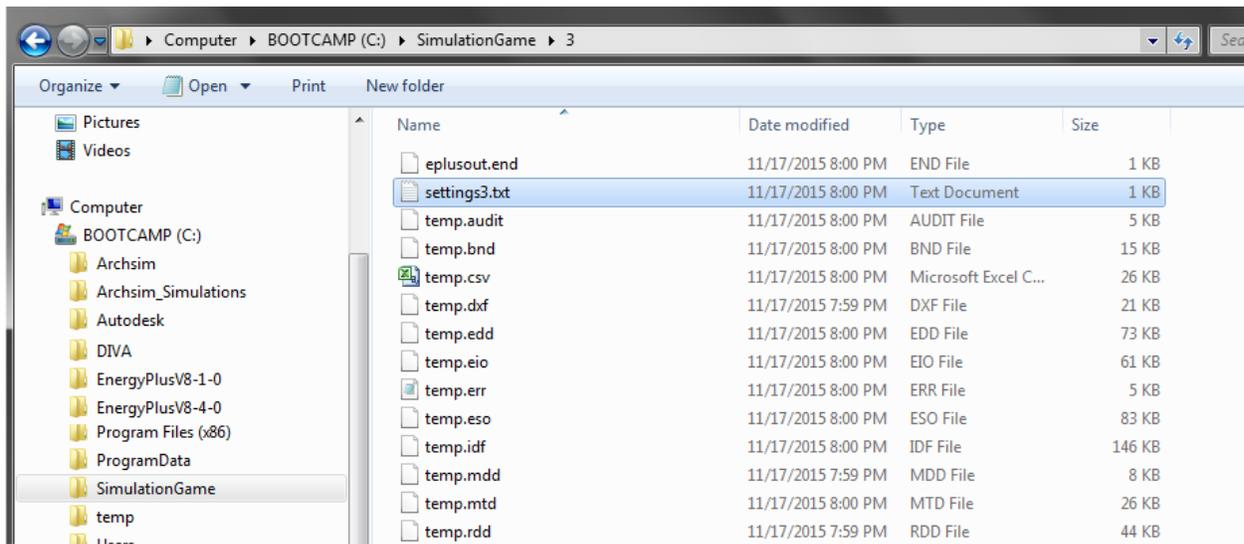

Fig 3. Location of your “settingsX.txt” file in the numbered subfolders within the C:\SimulationGame directory.
1. In the grasshopper file, "bake" the simulation results in the Rhino file by "middle-clicking" the twelve components on the right side of the Student Dashboard (labeled "bake results at end of game"). See Figure 3.
1. Graphic representation of your baseline design and at least four of your most important iterations (in perspective or axonometric) from Part 2 – they could include your starting point, decisive moments in the middle where you decided to make a big change, and/or your best performing scheme. **Include the settings you used** (reference the text file from Figure 3).